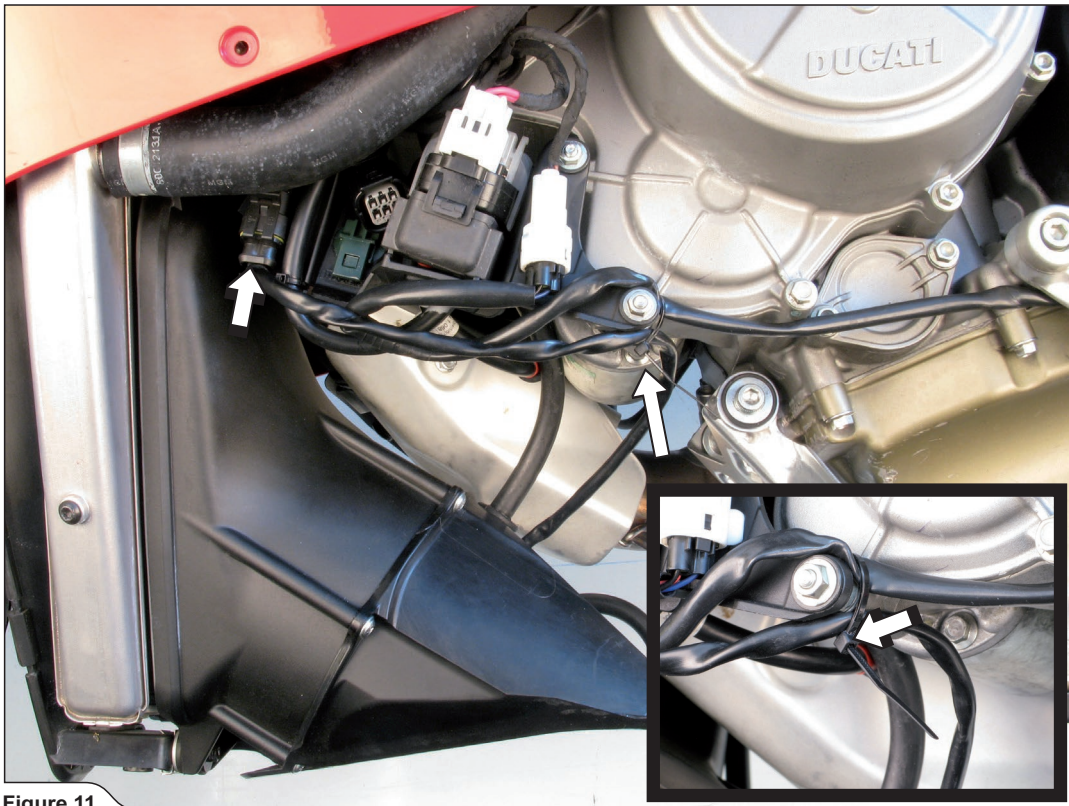

Figure 11
7. Reconnect the cooling fan's connector and secure the electrical leads as shown, using tie wrap from Akrapovič installation kit (Figure 11).